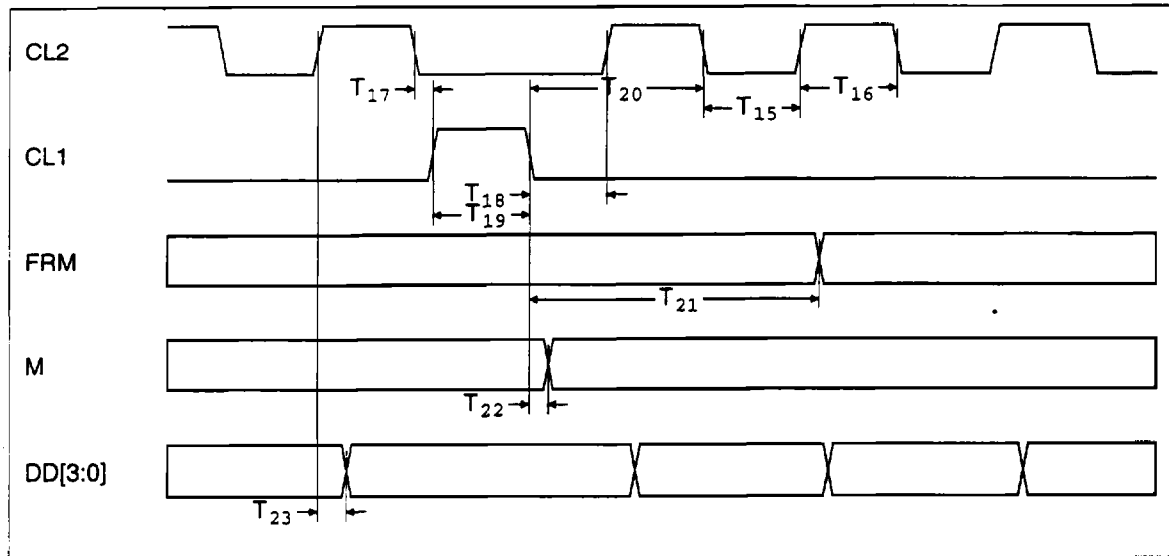

Figure 20-7: LCD controller timing
- 1 $\Rightarrow$ Figure 20-7: LCD controller timing shows the end of a line.